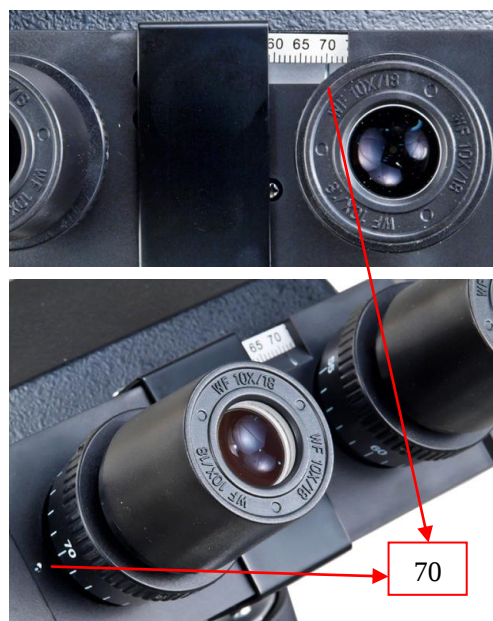

Fig.7
- 2) Rotate the diopter rings on the eyepiece tubes until its numerical value is the same as your interpupillary distance, for example, 70 in the figure (See **Fig. 7**).